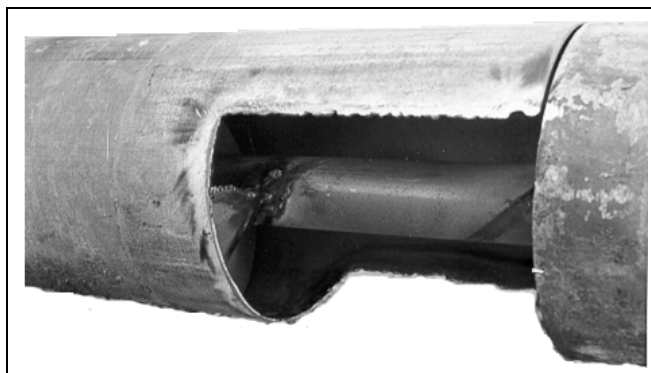

Figure 3B
2. Position the optional sensor connecting band (available in 6" and 8" diameters) so that the rectangular hole is toward the discharge end. Mark the outline of the rectangular hole and the edges of the band on the auger tube. Cut a hole in the tube 8" long and up about 1/3" of the way around the tube to remove the rectangular hole outline (stay inside the end marks of the connecting band). This large hole is to make it easier to remove the flighting. (See Figure 3B on Page 13.)